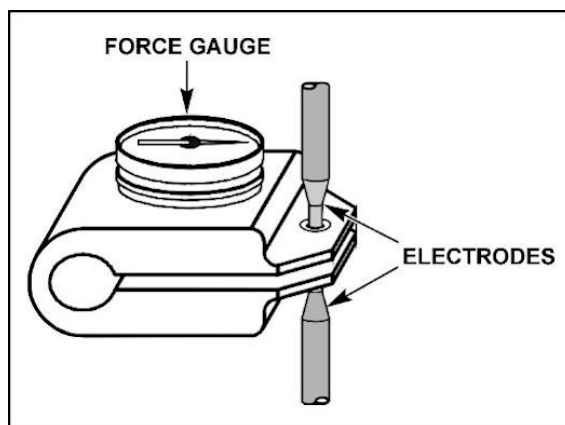

Figure 4-3. Measuring Preset Firing Force of the Weld Head with a Force Gauge
- 10 Adjust the pressure regulator, which controls the air pressure on the top of the air cylinder so that it is *just sufficient* to cause the Force Firing Switch in the head to close (see figure 4-3). *When the Force Firing Switch in the head closes, the screen on the 250DP will no longer display STANDBY.* Re-adjust both flow controls, as necessary.